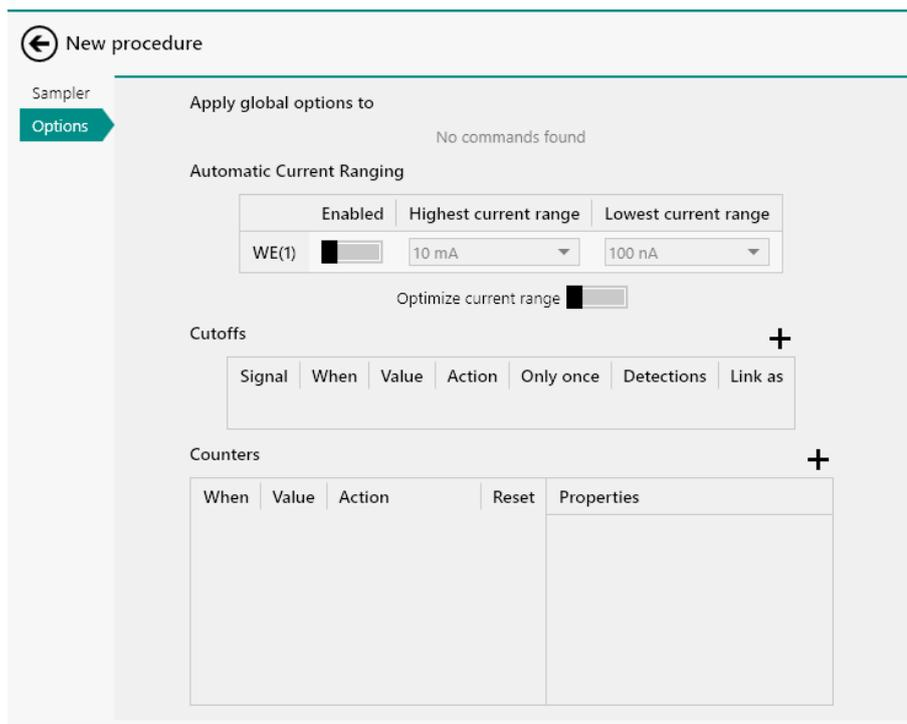

Figure 771 The global options settings
- **Options:** the settings in this section define the global options settings (see Figure 771, page 628).